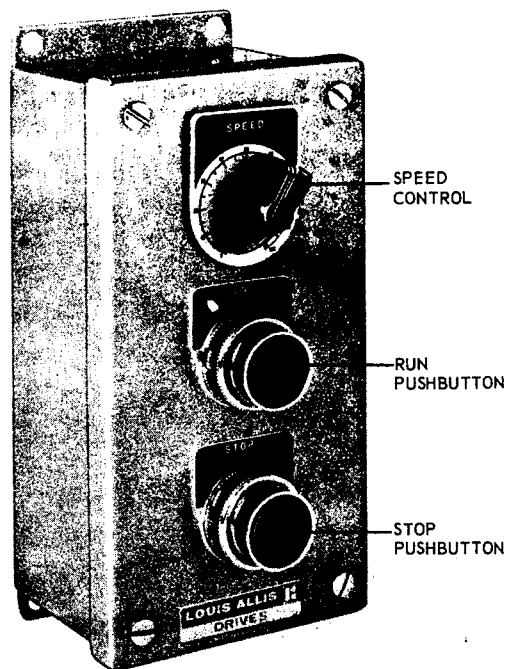

FIGURE 9. SPEED CONTROL LOCATION
**SPEED (figure 9)** - Allows operator to adjust the running speed of the drive. The drive speed is adjustable from the low limit (set by the LOW SPEED TRACKING adjustment) to the high limit (set by the MAX SPEED adjustment).